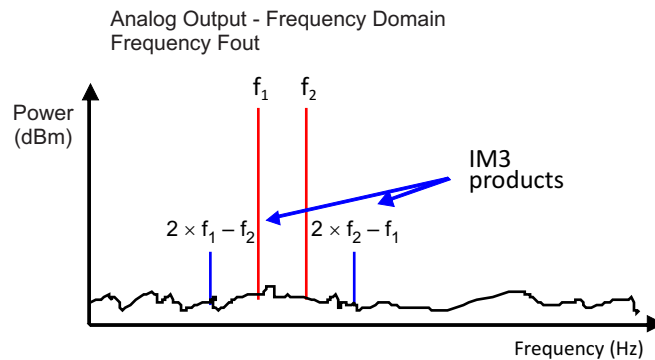

Figure 5. IMD3
**IMD3:** refers to the **I**nter**M**odulation **D**istortion from the 3rd harmonic of a circuit. IMD3 is of particular importance in narrow or wide band signals because its distortion products can land in the signal band or the adjacent channel. This can be seen by looking at a signal that is made up of two sine waves, one at  $f_1$  and one at  $f_2$ . The 3rd order products of these sine waves create frequencies at  $2 \times f_2 - f_1$  and  $2 \times f_1 - f_2$ , which are very close to the signals  $f_1$  and  $f_2$ . Refer to Figure 5 for the IMD3 equation and illustration.